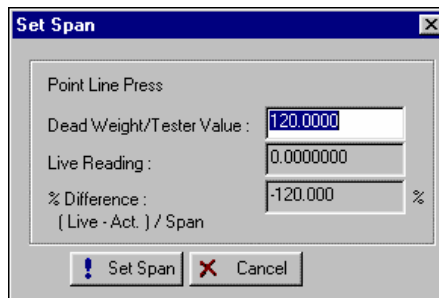

Figure 8-5. Set Span
10. When the displayed Live Reading is stable, click **Set Zero** to calibrate the zero reading. The Set Span window then appears, as in Figure 8-5.